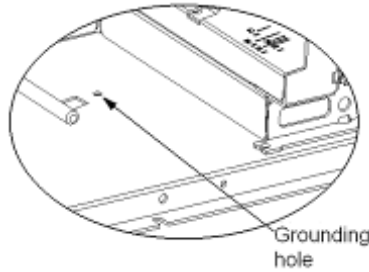

Fig. 4.3-1 Grounding position
To ensure that the printer has a nice grounding status, please follow Fig. 4.3-1 to connecting the grounding
- Tighten the grounding wire to a grounding pole with one M3×5 pan head screw (see Fig. 4.3-1), then the grounding wire connection is finished;